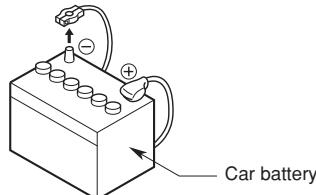

Figure 1
3. Be sure to disconnect the battery “ $\ominus$ ” terminal before starting. This is to prevent short circuits during installation. (Figure 1)